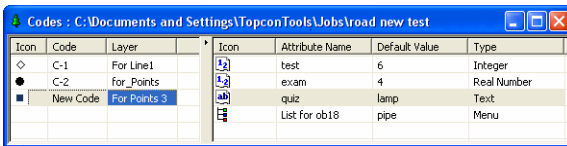

Figure 5-61. Codes View
3. Click **Apply** to set data without closing; click **OK** to set data and close the dialog box. The right panel of the *Codes* view displays the list of the created attributes for the code selected in the left panel (Figure 5-61).